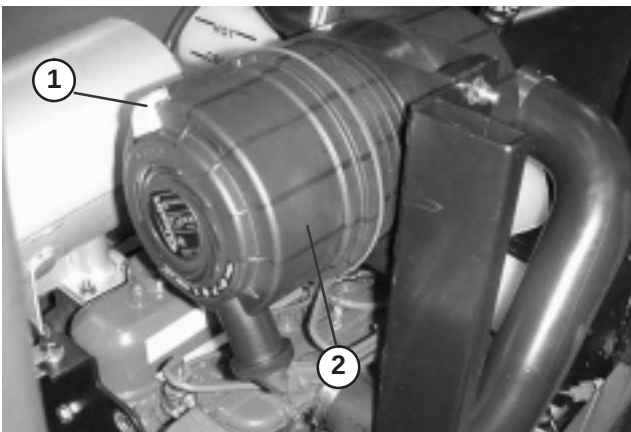

Figure 38
1. Pull latch outward and rotate air cleaner cover counter-clockwise. Remove cover from body (Fig. 38). Clean inside of air cleaner cover.